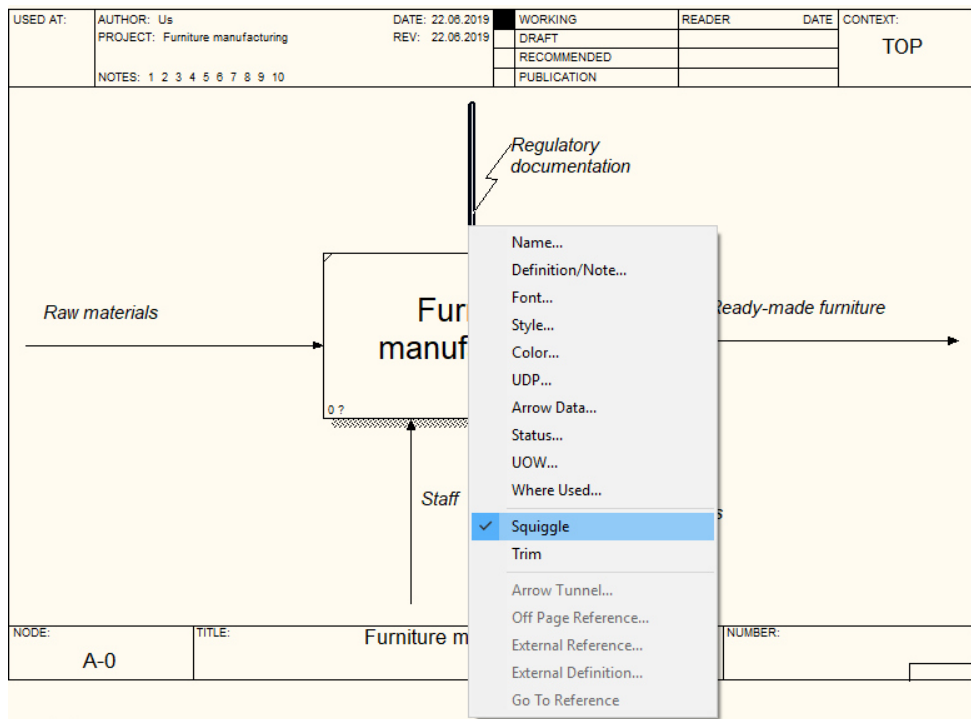

Fig. 1.19. The context menu
3. It is also possible to use a **Squiggle** command of the context menu (fig. 1.19).